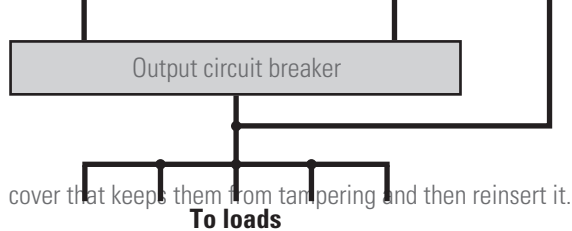
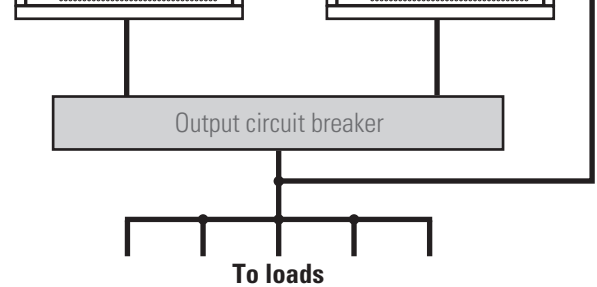

Fig. 26. Example of a parallel system, with a single AC network and manual bypass board.
Fig. 27. Example of a parallel system, with independent static bypass line and manual bypass board.
- Beyond the communication bus, it is necessary to provide the installation with parallel systems, a board provided with the individual input and output protections and a manual bypass with mechanical locking. See Fig. 26 or Fig. 27, depending on whether or not there is an independent static bypass line.